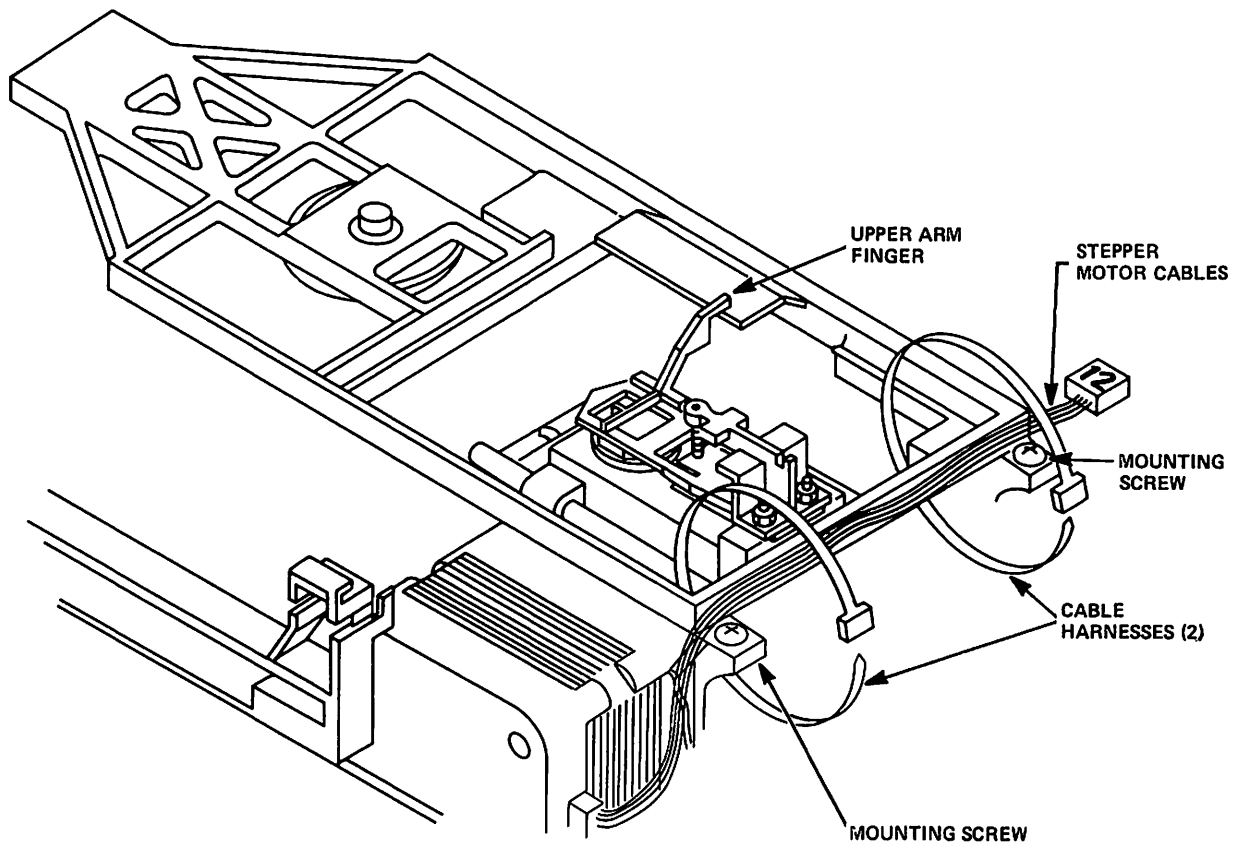

Figure 5-5
5.4.6 At the rear of the Cone Lever Assembly, cut the two (2) cable harnesses that hold the stepper motor cables in place (see Figure 5-5).
- 5.4.9 Slide the Cone Lever Assembly rearward to release the upper arm finger (see Figure 5-5).
- 5.4.16 Gather together and harness the stepper motor cables in two (2) places at the rear of the Cone Lever Assembly (see Figure 5-5).